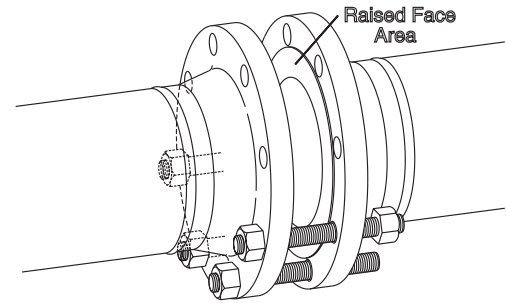

Figure 10
2. When installing wafer body valves, install lower flange bolts without tightening (Figure 10). Position valve and flange gaskets between flanges, within the pocket formed by the flange bolts. Install the remaining flange bolts, taking care that the gaskets are centered on the flange faces.